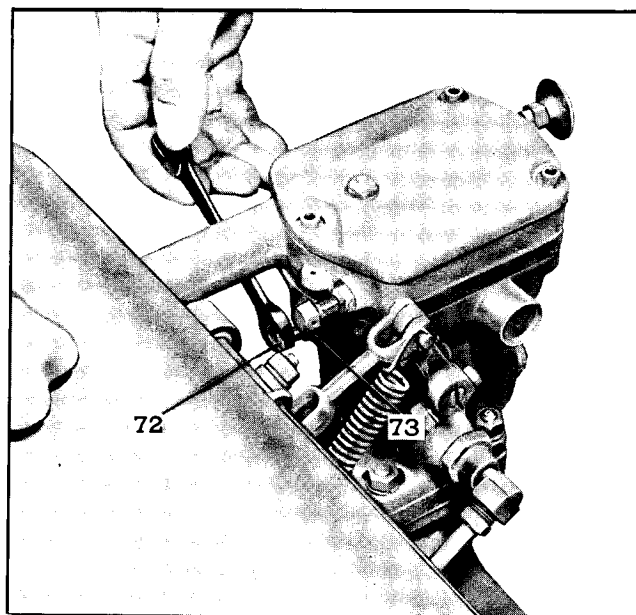

Fig. 5 - Adjusting Maximum No-Load Speed
- Loosen lock nut (73), Fig. 5, and back off maximum speed adjusting screw (72) approximately 5/8".
2. Turn maximum speed adjusting screw (72), Fig. 5, in until engine is operating approximately 8% above the rated full-load speed.
3. Hold screw and tighten lock nut (73). Install governor cover.